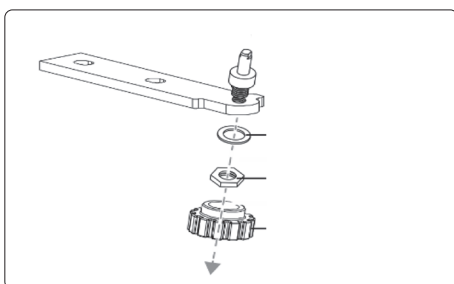

fig.4
- 5. Remove the adjustable foot on the lower hinge shaft, and remove the washer and nut (fig.4).